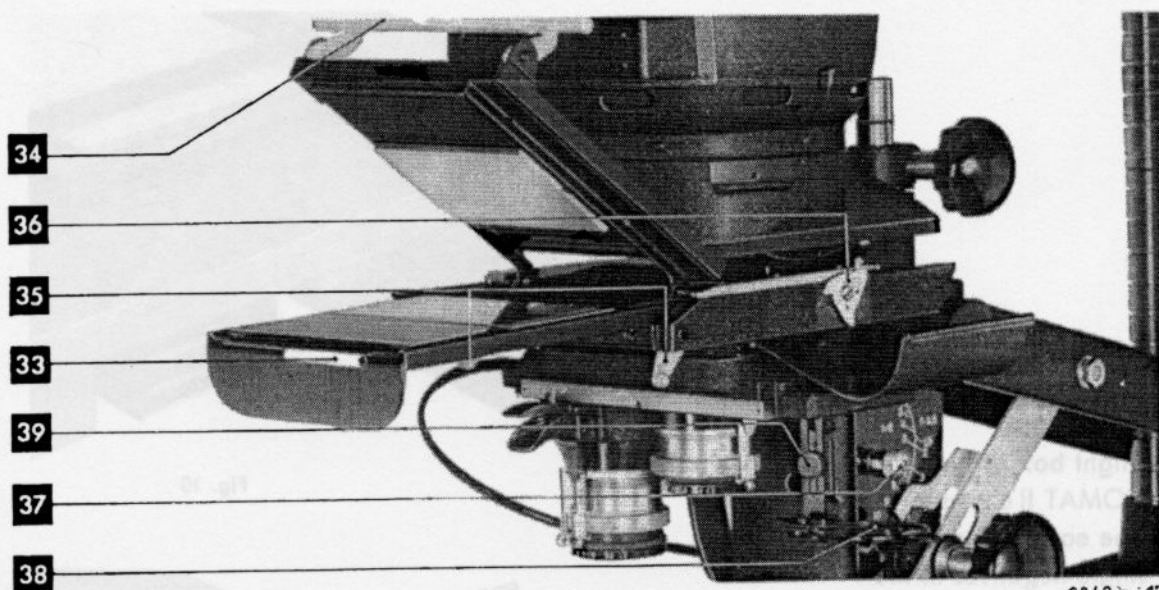
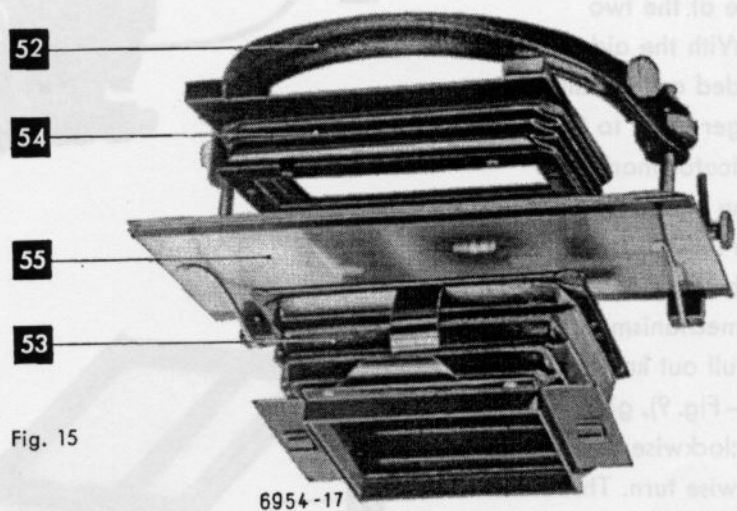

Fig. 9
Fig. 15
Insert the upper bellows (54 – Fig. 15) so that the bellows frame rests in the two slots at the back of the lamp housing and engages the cast piece with both catches. Push the lower bellows (53 – Fig. 15) into the film stage until it snaps into position; insert the double glass plate (55 – Fig. 15) between the upper and lower bellows so that it is clamped on either side of the two holders. With the aid of the threaded collar, raise the enlarger head to the black indicator mark on the column where it should be locked. Disconnect the automatic focusing mechanism as follows. Pull out knurled head (37 – Fig. 9), give it half a clockwise or anti-clockwise turn. Three grooves permit fixing the lens carrier (F) at three different heights; by adjusting it, it can be arrested at any of these three positions.